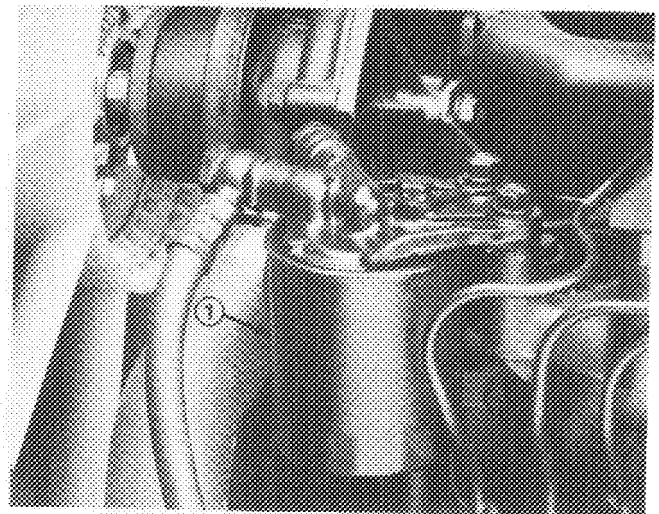

Figure 38
3. Every 1000 hours operation, or yearly, replace the engine fuel filter (Fig. 38) – left front side of engine – and drain water from the fuel tank. Apply clean fuel oil to the filter O-ring. Use hands only to install and tighten filter.
- C. Remove wing nuts securing top of oil cooler to upper radiator support and pivot top of oil cooler away from radiator (Fig. 38).